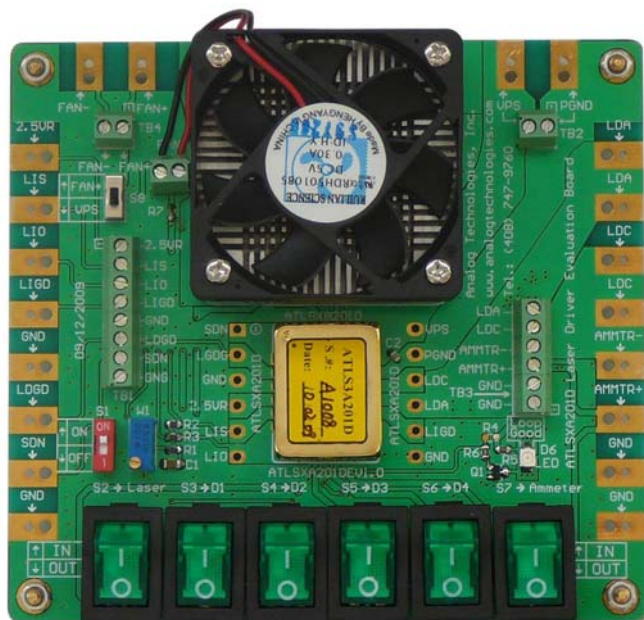

Figure 1. Physical Photo of ATLS201DEV1.0
The ATLS201DEV1.0 Evaluation Board is consisted of a complete application circuit for driving laser diodes. It can set and monitor the output current, has an LED for indicating the working status of the driver, and has numerous connection pads and terminal connectors for making connections with external components and instruments. Its physical photo is shown in Figure 1.
1. Hook up the power supply. There are 2 solder pads in the upper center area on the edge for connecting the power supply. The connection can be done by clipping or soldering on the pads, or locking in 2 wires through the terminal block TB2 by using the screws, see Figure 1. Usually the power supply is set to 5V. If the output maximum voltage is sure to be always at low value, such as 2.5V, a power supply with a voltage of about 1V higher than the maximum output voltage, i.e. 3.5V, can be used. When using a lower voltage power supply, the power consumption of the driver will get smaller, thus, the driver will be working under lower temperature rise.